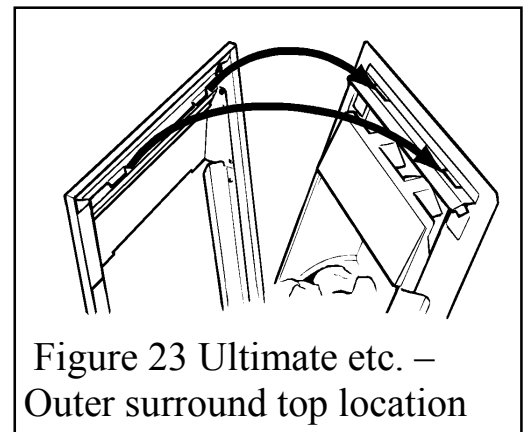

Figure 23 Ultimate etc. –
1. Pick up the outer surround. Locate the two lugs at the top of the front surround in the slots in the upper case support strip (See figure 23). Swing the bottom of the surround sides back against the convection box and lower the surround so that the lugs are fully seated in the slots in the convection box hood.